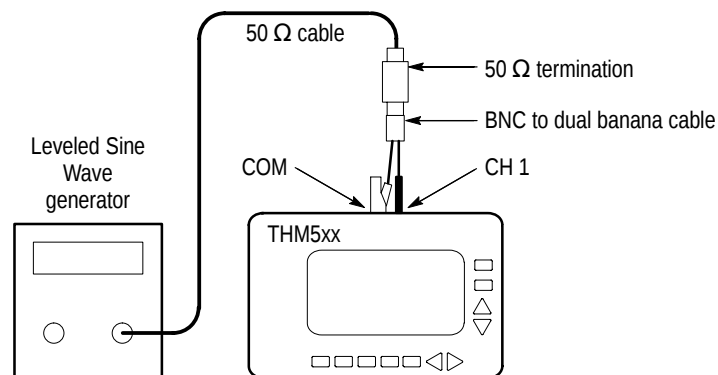

Figure 8: Analog Bandwidth Test Setup
1. Connect the leveled sine wave generator output to the THM500 series instrument CH 1 and COM inputs. Use a 50 Ω termination as shown in Figure 8. Assure that the ground connection for each adapter connects to the common (or ground) connector of its associated instrument.